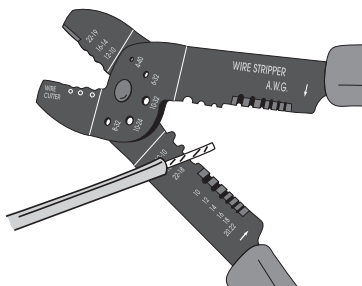

figure 5
1. Strip wires over 1 cm ($\frac{1}{2}$ inch) (**figure 5**).